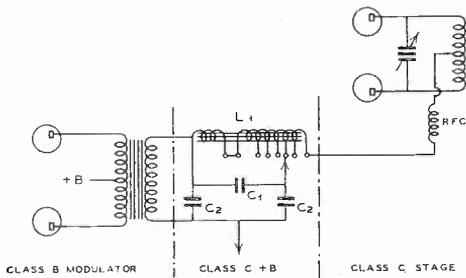

Fig. 1
• The chokes consist of two windings, one of which is tapped. By means of the various combinations it is possible to obtain a great many inductance values as shown in the table. The choke is used in conjunction with three mica condensers, Fig. 1 in a low Pass M Derived Type Filter.
found to be .024 henries, C_1 .006 Mfd. and C_2 .004 Mfd. Two C_2 condensers are required, one on either end of the choke as shown in Fig. 1. Whenever the exact values of inductance or capacity cannot be obtained the next lower values should be used for the 3500 cycle cut-off curve and the next higher values for the 5000 cycle curves.